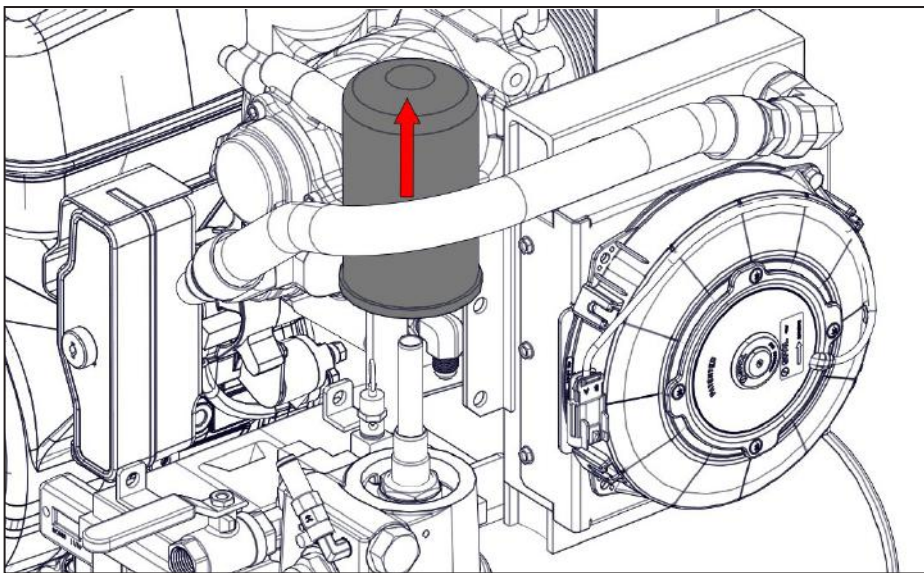

Figure 42 — Coalescing filter
- ☐ Remove the spin on coalescing filter by turning it counterclockwise (Figure 42).
- ☐ Clean the gasket sealing surface and inspect it for damage. The surface must be free of old gasket material and smooth to ensure a good seal (Figure 42).